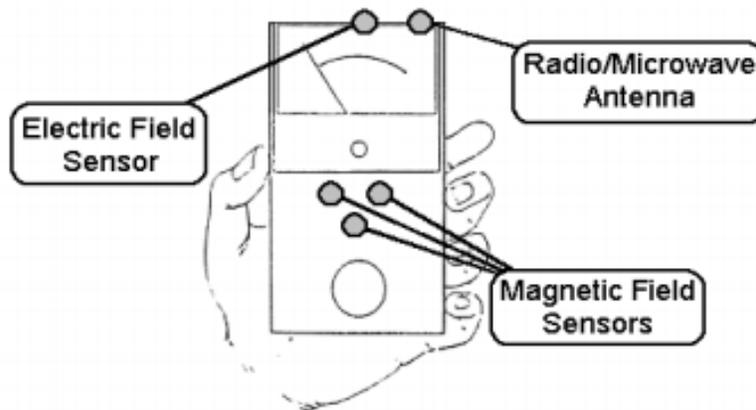

FIGURE1
Hold the meter as shown (See Figure 1). Do not cover the top of the meter. This prevents your hand from shielding electric fields or microwaves. Normally, the indoor RADIO/MICROWAVE (RF) readings should be near zero in most parts of a home or office, and will almost certainly be zero if you cup your hand in front of the antenna (See Figure 1) or place the meter in a metal box.